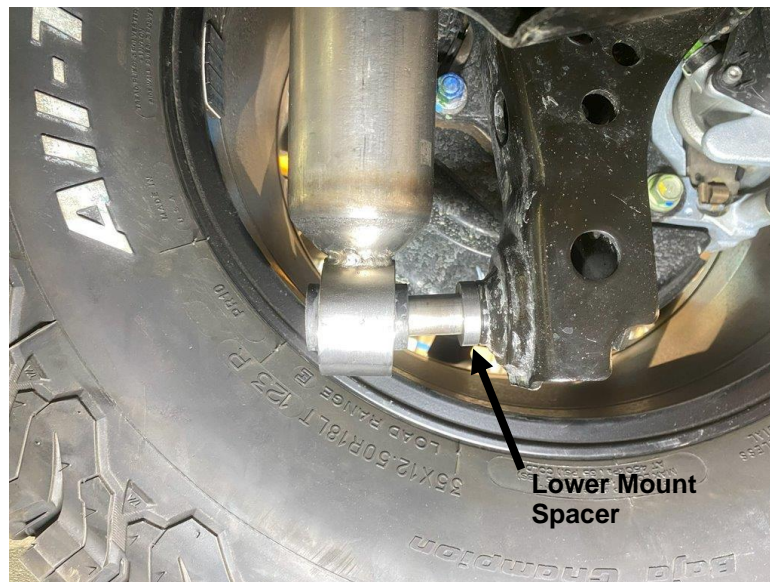

Figure 1: Lower Mount
- C. Install the supplied lower mount spacer (see Figure 1). Then install the Bilstein Shock Absorber in the original location and attach the lower mount.